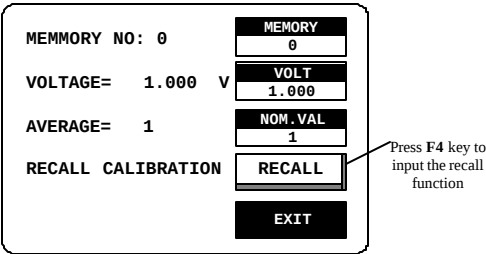

Figure 7-3
- Press **F4** key to select “RECALL CALIBRATION” function. ( Figure 7-3)